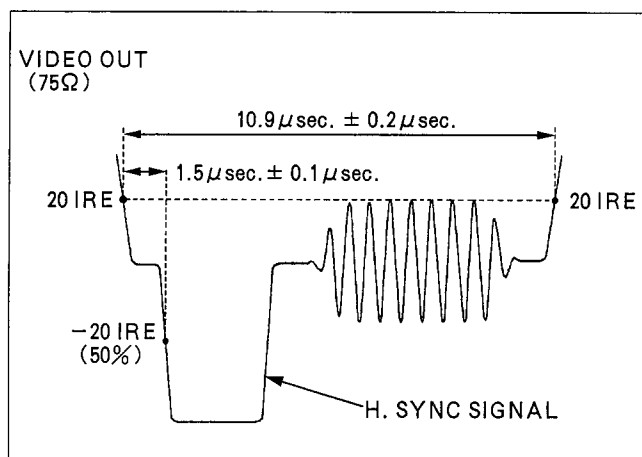

Figure E43
SPEC.	FIG. E43
2. Adjust VR8102 so that the waveform becomes as shown in Figure E43.